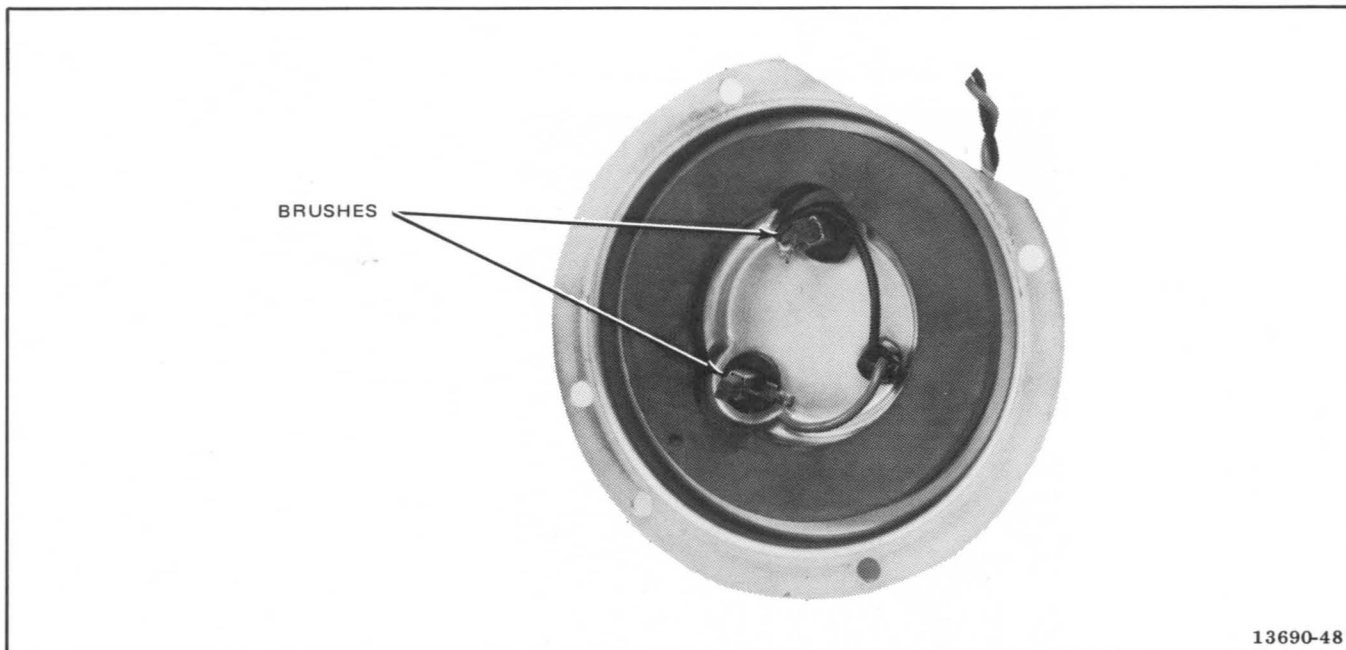

Figure 5-48. Capstan Motor Rear Cover Assembly
5-95. *Capstan Motor Brushes.* Use the following procedure to replace the capstan motor brushes. The motor brushes (Figure 5-48) are attached to the inside of the capstan motor rear cover. Proceed as follows:
2. Remove only the two screws and flat washers shown in Figure 5-48 that secure the capstan motor rear cover to the motor (not the plate screws).